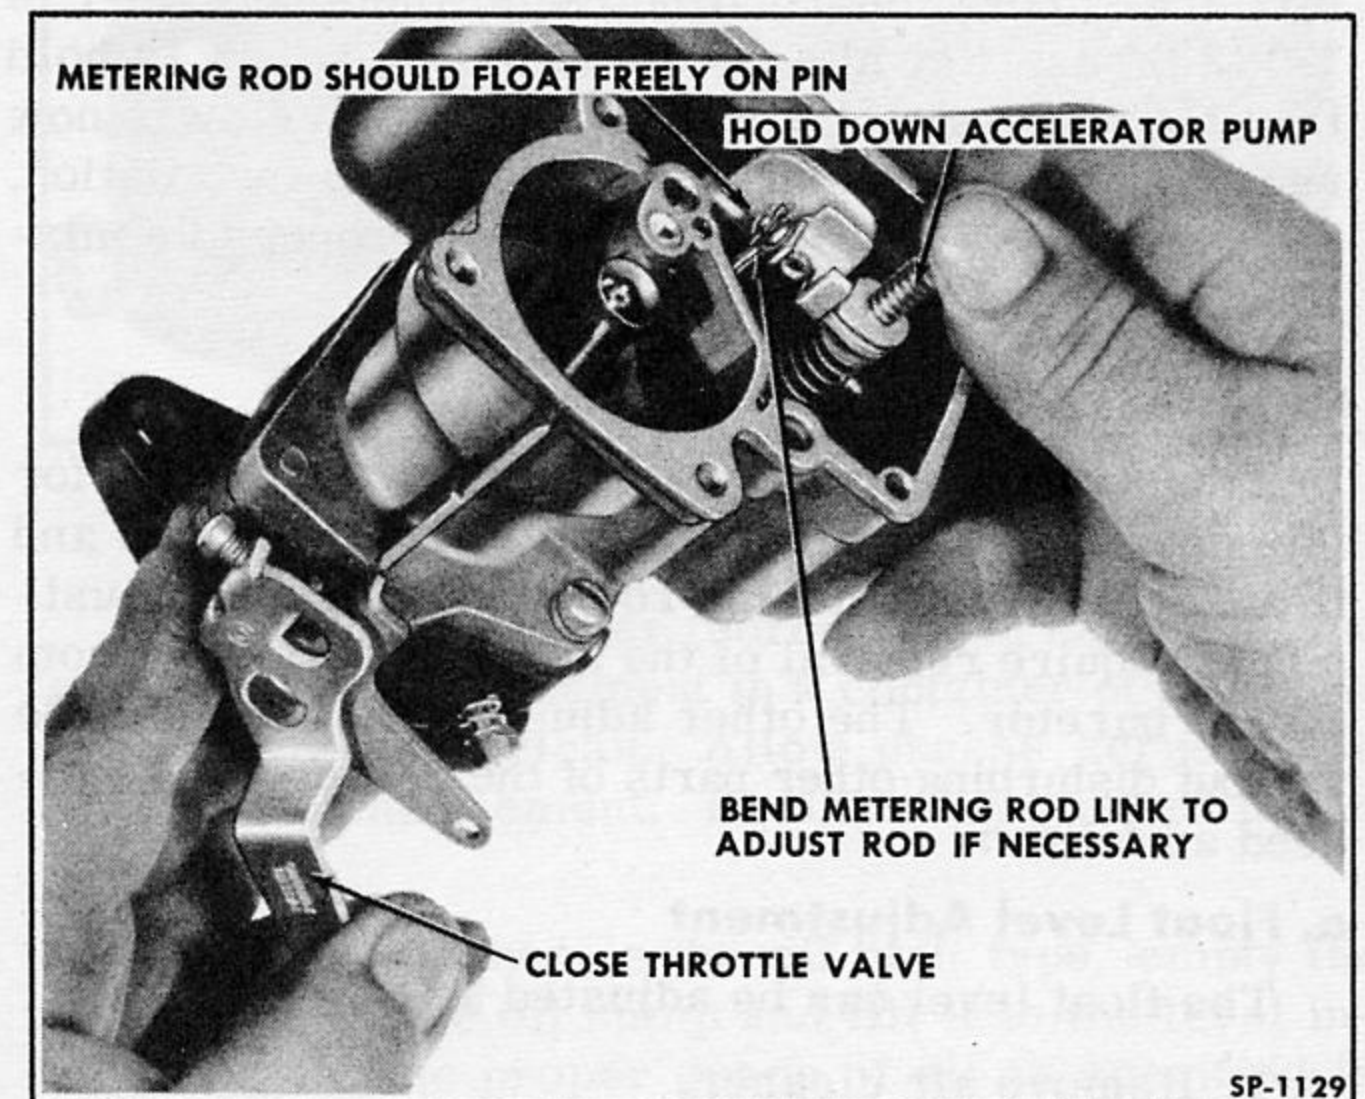

Fig. 76—Checking Metering Rod Adjustment
15. Adjust metering rod by backing off the idle speed adjusting screw until throttle valve seats in bore of body flange. With throttle valve held closed, press diaphragm shaft down until diaphragm bottoms (Fig. 76). In this position, metering arm should contact lifter link and at the same time, the metering rod must bottom in the metering rod jet and float freely on the pin.
2. Close throttle valve and press diaphragm shaft down until diaphragm bottoms (Fig. 76).